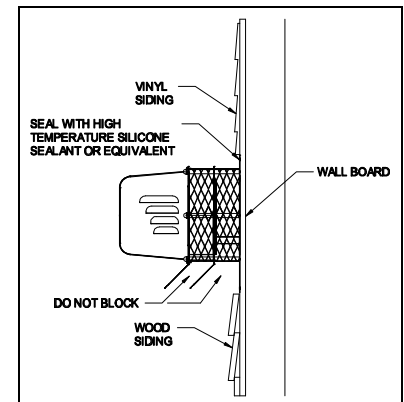
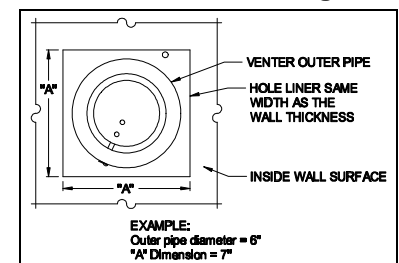

Figure 2
Figure 3
- After determining the location of the venting system termination point (see Diagram A), cut a square hole through the wall 1" larger than the outer pipe diameter of the power venter. Mount the power venter through the wall, keeping the outer pipe centered in the hole. (See Figure 3) Fasten the power venter to the outside wall with appropriate fasteners. Seal the edges of the power venter base plate to the wall with a high temperature silicone sealant. DO NOT enclose the spaced plates on the power venter body. This will result in reduced cooling of the power venter body. Wood or vinyl siding should be cut so that the unit mounts directly on the wall board to provide a stable support. If the siding is greater than 1/2" thick use a spacer plate or board behind the power venter mounting plate. (See Figure 2)
NOTE: If mounting the power venter through a combustible wall material and the flue gas temperature is above 400°F at the power venter inlet, line the square hole with a piece of corrosion resistant sheet metal or non-combustible material. The liner piece should be the same width as the wall section. (See Figure 3) The power venter has a maximum flue gas temperature of 550°F at the venter inlet. For installation in wall thicknesses over 8 inches, use an SWG Series Tough Wall Extension Kit, Model PEK.